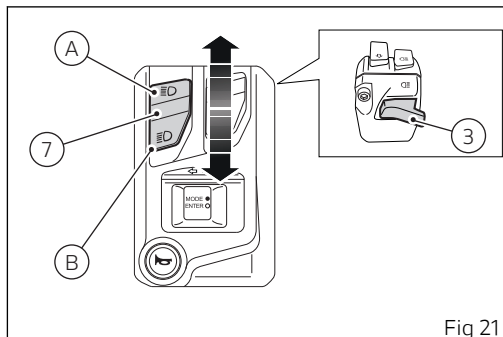

Fig 21
If the low beam is activated, it is possible to switch on the high beam with button (7, Fig 21) position (A), or flash with button (3, Fig 21).
If engine is not started upon key-on, it is anyway possible to switch low/high beams on by pushing button (7, Fig 21) positions (B) and (A), or flash with button (3, Fig 21) on LH switch.
By pressing button (7, Fig 21) the high and low beams are turned on whereas the DRL light is turned off. Upon releasing the light button (7, Fig 21) the DRL light is automatically switched on again.